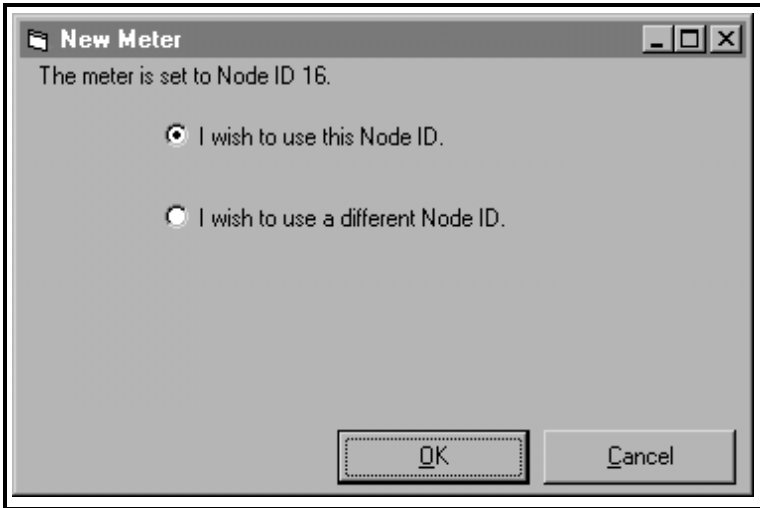

Figure 7: Node ID Confirmation
6. After responding to the previous dialog box, a dialog box showing the Node ID (16 in this example) of the meter appears (see Figure 7 below). Select the “*I wish to use this Node ID*” radio button and then click on the [OK] option button.